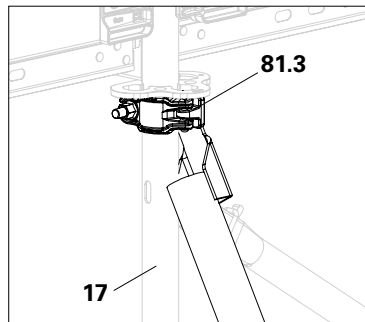

Fig. C4.04a
2. From the first scaffold level, fit the top coupling (81.3) onto the outer standard (17). Push the coupling as close as possible to the rosette and tighten. (Fig. C4.04a)